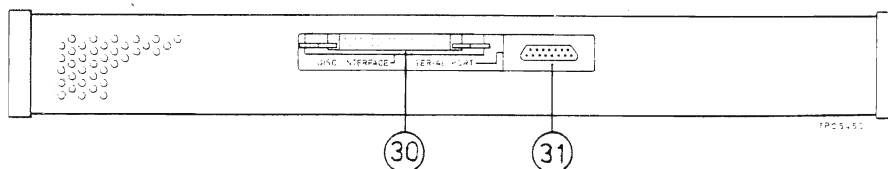

Fig. 3 2958 side panel connectors
6. Side panel connectors shown in Fig. 3 are as follows:-
- (30) DISC INTERFACE. 34-pin socket for the connection of a floppy disc drive. Enables user-defined tests to be loaded into or unloaded from the 2956's 8 K non-volatile memory. The interface is mechanically compatible with a Shugart-type connector.
- (31) SERIAL PORT. 15-pin RS232C interface connector. Used for the connection of a serial printer, or of a computer to transfer user-defined sequences, or from an external controller for the same purpose as for the public GPIB interface.